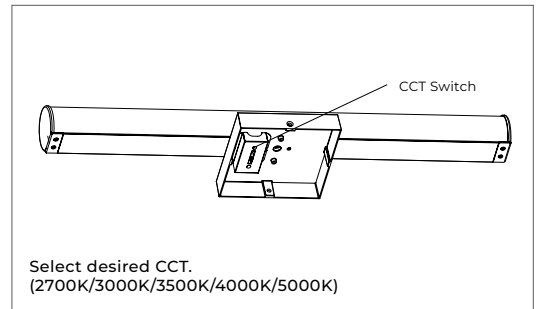

FIGURE 2
B) If field selectable CCT, select desired CCT (2700K/3000K/3500K/4000K/5000K) [Figure 2]. If single CCT, skip this step.